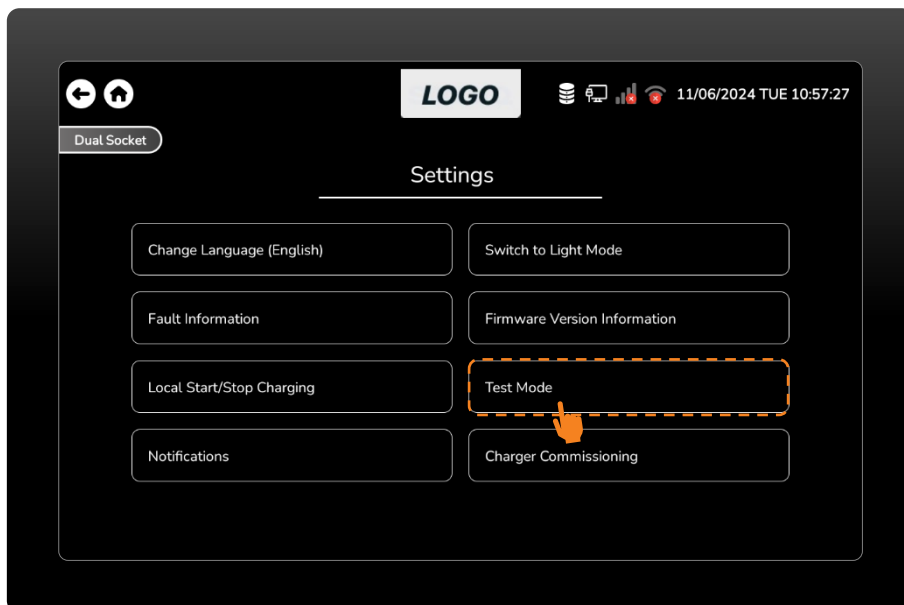

Figure 20 Press the Test Mode.
- Press the "Test Mode" option. (Figure 20)